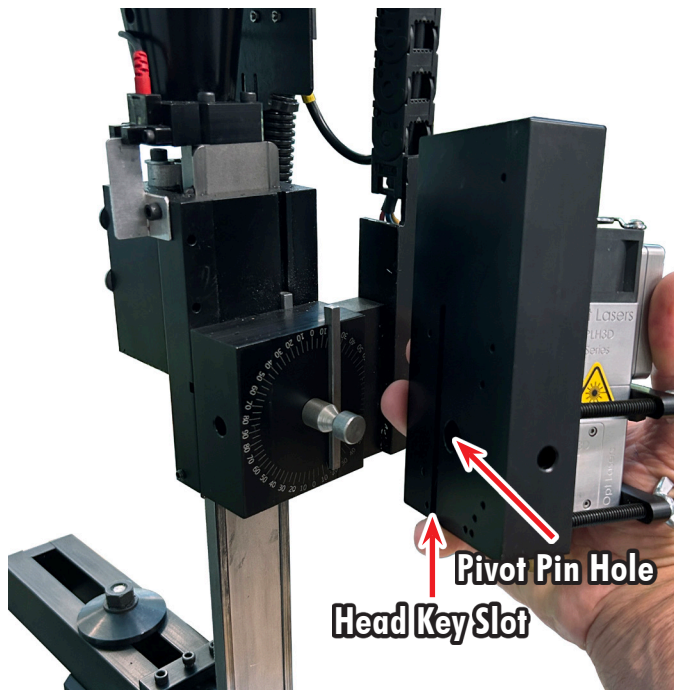

FIGURE 2—Align the head key slot and pivot pin hole on the back of the laser mount to the head key and the pivot pin on the column saddle.
3. With the laser either mounted or unmounted to the laser mount, hold the laser mount with the pivot pin hole and head key slot orientated towards the column saddle (see Figure 2).